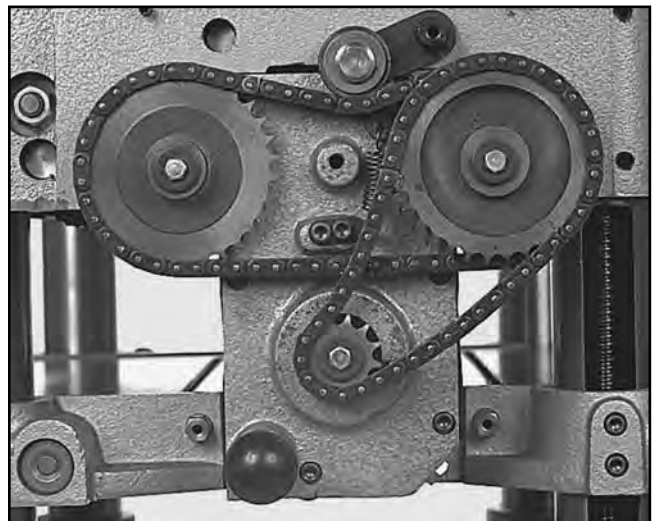

Figure 29. Location of sprocket bolts.
2. Check the bolts holding the sprockets in place. Inspect the drive chains to ensure that the cotter pins are in place. Replace the pins if necessary. See **Figure 29**.